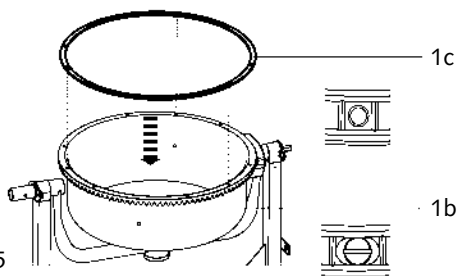

Fig. 5
3. Align the holes and bolts and place the rubber gasket (1c) onto the lower drum (1b) (Fig. 5).